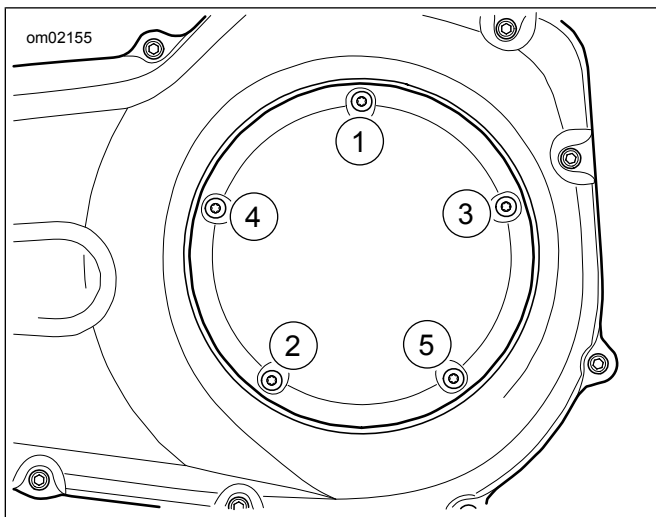

Figure 9. Clutch Cover Tightening Sequence
- c. See Figure 9. Tighten screws in sequence shown.